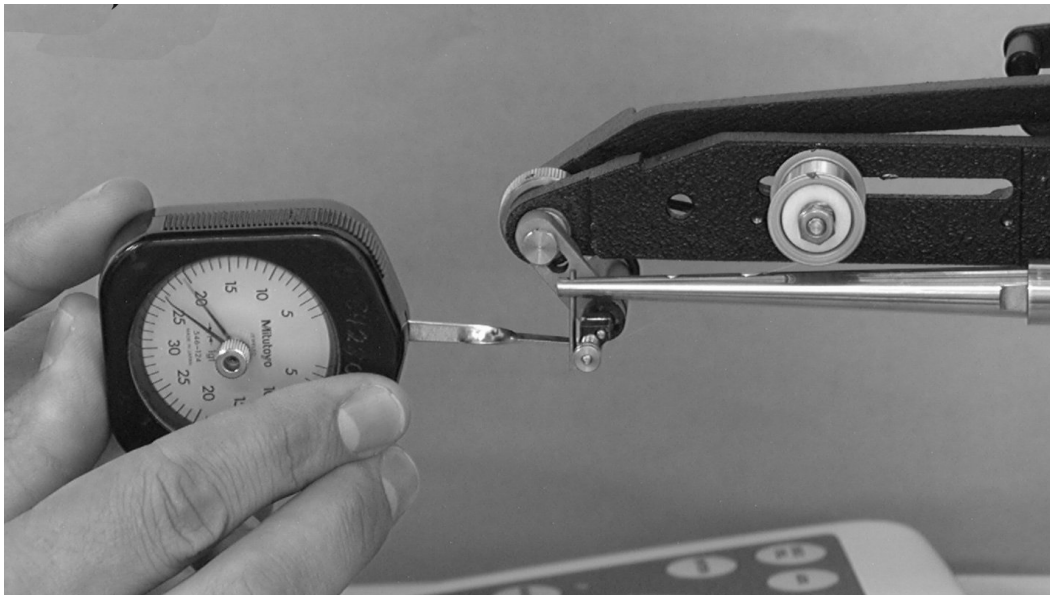

Figure 5-4: Force Adjustment Using a Gram Gauge
- 6 Using a gram gauge (see Figure 5-4), lift the bonding head until the gauge reading starts to rise.